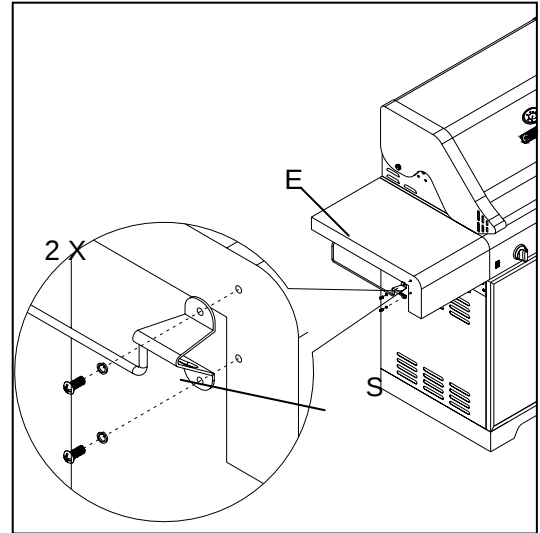

Fig. 24
Place the flame tamers (Q), cooking grids (P) and warming rack (O) into the grill as shown in Fig. 24.
Place the grease tray (X) and grease box (Y) from back of the grill as shown in Fig. 24.